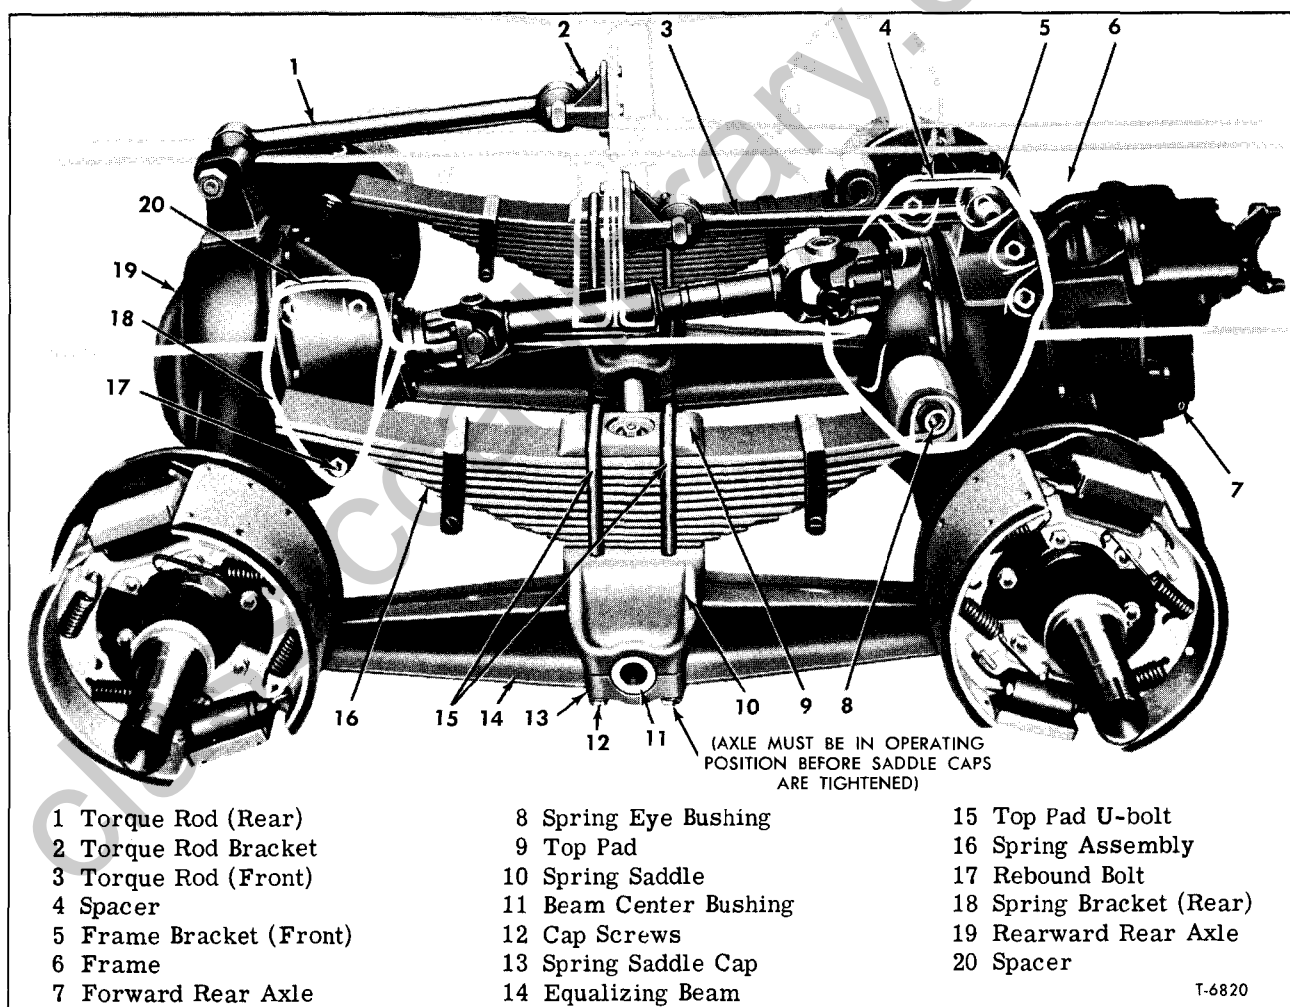

Figure 9—Tandem Rear Axle Suspension (Hendrickson RU) (Typical)
5. On vehicles equipped with the "RU" type suspension shown in figure 9, remove bolts which attach spring saddle cap to saddle; then lift spring and saddle assembly up and rearward to remove. It may be necessary to raise frame higher for saddle to clear equalizer beam. Remove U-bolt nuts which attach top pad to saddle, then remove U-bolts, top pad, and saddle from spring.
INSTALLATION (Fig. 9) (WITH "RU" TYPE SUSPENSION)